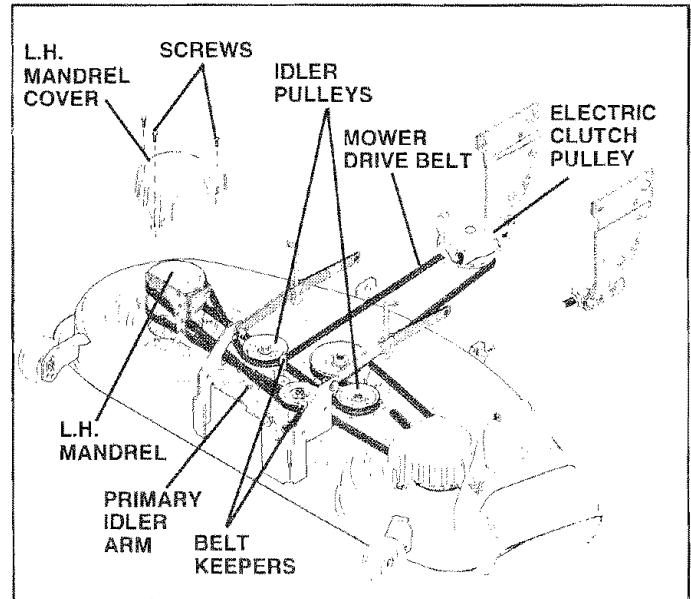

FIG. 23
**MOWER DRIVE BELT REMOVAL** (See Fig. 23) -
**MOWER DRIVE BELT INSTALLATION** (See Fig. 23) -